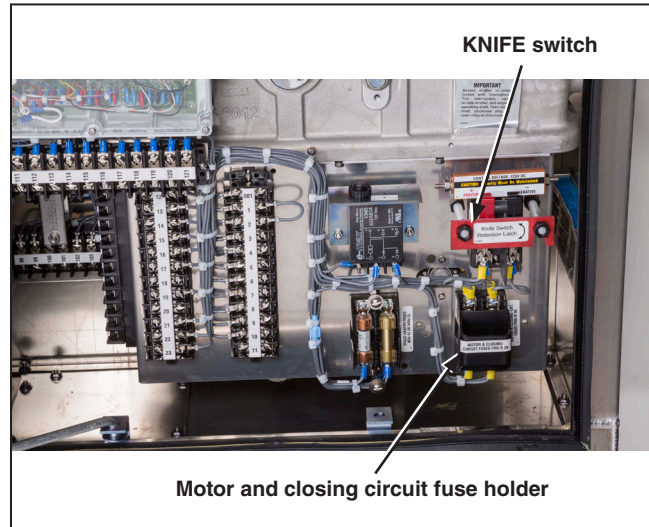

Figure 30. Motor and closing circuit fuse holder and control source KNIFE switch.
- STEP 5.** Insert the motor and closing circuit fuseholder, and then close the control-source disconnect KNIFE switch. See Figure 30.